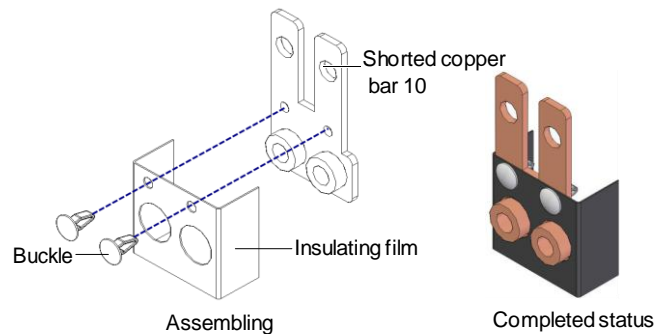

Figure 2-10 Pasting the insulating film to the shorted copper bar 10
6. As shown in Figure 2-10, you can paste the insulating film (accessory) to the shorted copper bar 10, and insert the buckles into the corresponding holes on the shorted copper bar 10.
7. As shown in Figure 2-10, you can paste the insulating film (accessory) to the shorted copper bar 10, and insert the buckles into the corresponding holes on the shorted copper bar 10.
1. As shown in Figure 2-10, you can paste the insulating film (accessory) to the shorted copper bar 10, and insert the buckles into the corresponding holes on the shorted copper bar 10.